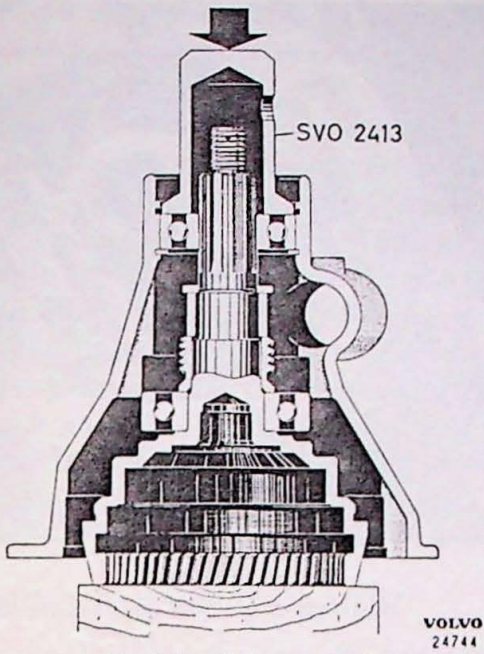

Fig. 3-48. Fitting output shaft
3. Support under the output shaft with a block of wood. Place on the speedometer gear (29), spacing sleeve (28) and thrust washer (27). Press on the rear housing half with drift SVO 2413, see Fig. 3-48. Place in the locking ring for the rear bearing. Press in the sealing ring (25) with drift SVO 2422. Press on the coupling (24) with a suitable sleeve or with press tool SVO 2421. Fit washer and nut. Tighten and lock the nut.